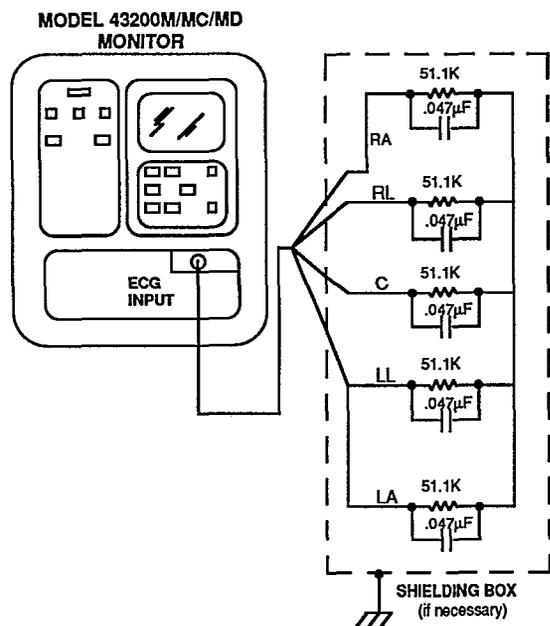

Figure 3-1. ECG Amplifier Noise Test Setup.
1. Connect the Equipment as shown in Figure 3-1.